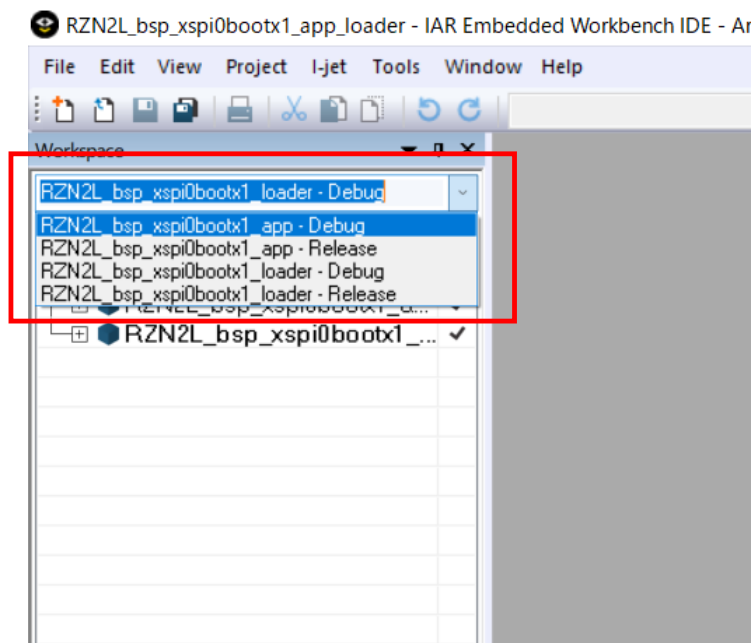

Figure 6.1 Project selection
2. Select "RZ/N2L_bsp_xspi0boot1_app" project in Workspace box as Figure 6.1.